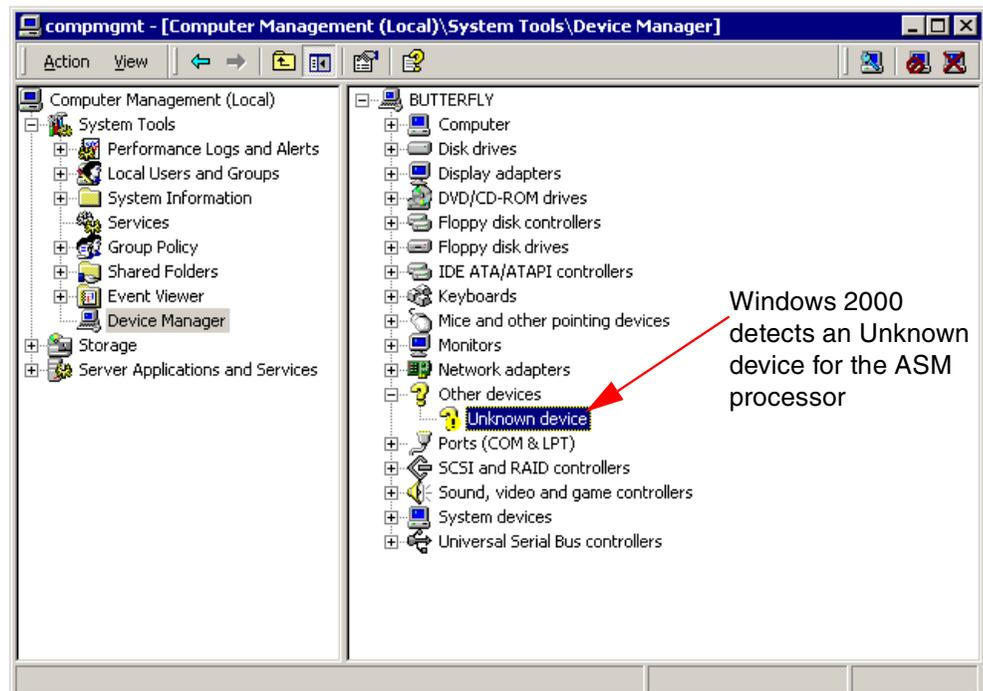

Figure 74. Device Manager — ASM processor only
- Figure 74 (if you only have an ASM processor in your server)